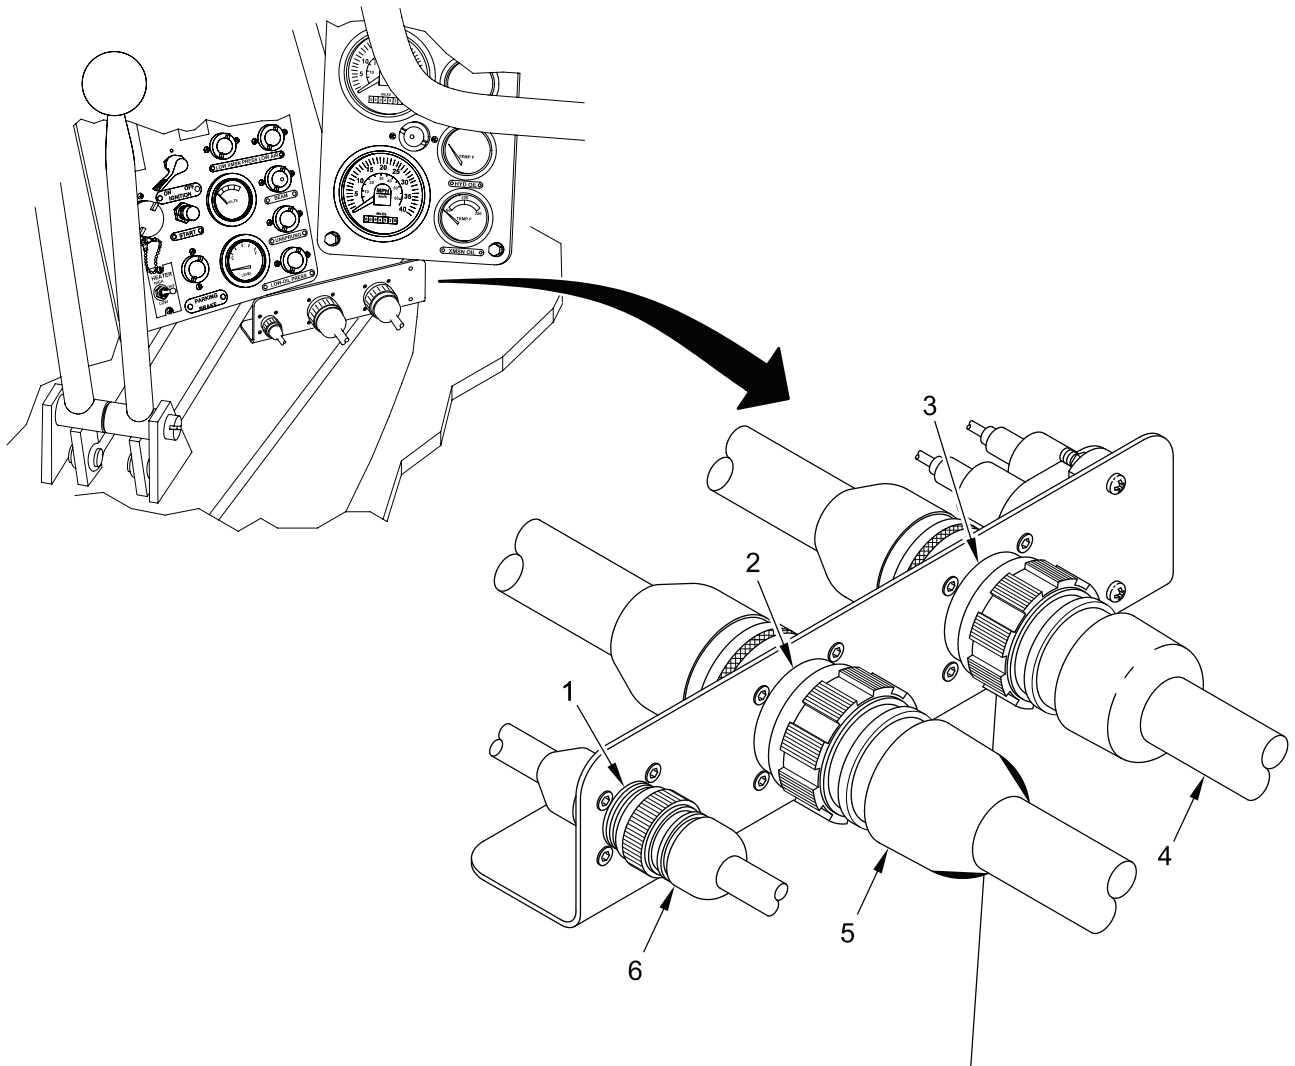

Figure 26. Installation and Removal of Wiring Harness W4 (Umbilical Cable W4).
2. Connect umbilical cable connector W4P4 (Figure 26, item 6) to disconnect bracket harness W1 connector J1 (Figure 26, item 1).
3. Connect umbilical cable connector W4P5 (Figure 26, item 5) to disconnect bracket harness W2 connector J1 (Figure 26, item 2).
4. Connect umbilical cable connector W4P6 (Figure 26, item 4) to disconnect bracket harness W3 connector J1 (Figure 26, item 3).